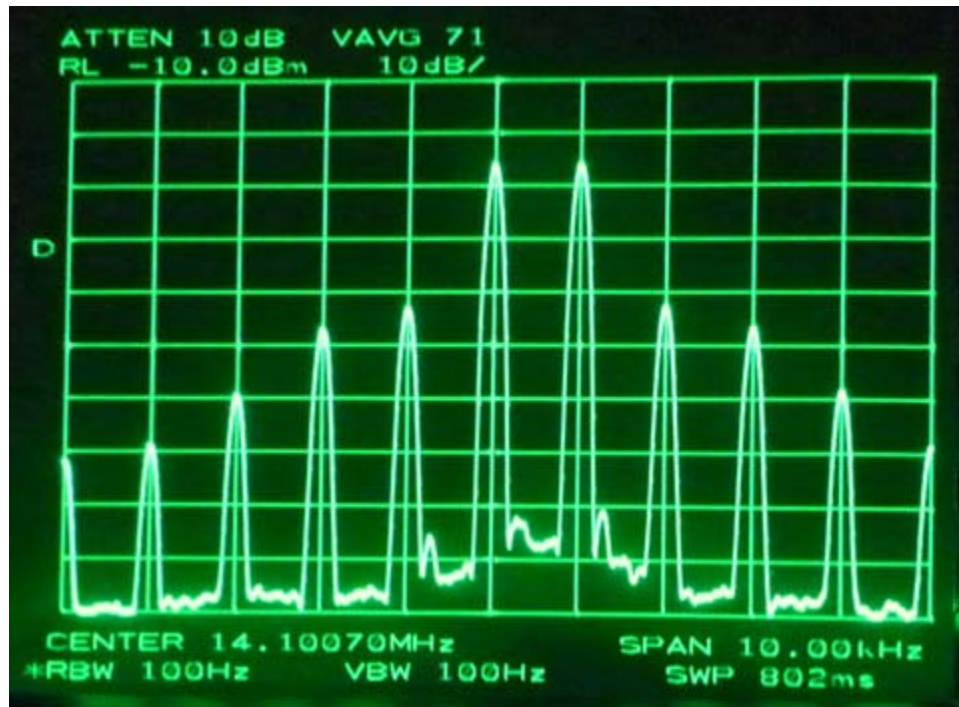

Figure 13: Spectral display of 2-tone IMD at 100W PEP.
**Test Conditions:** DC supply 13.8V, measured at DC power socket. 14100 kHz USB-D, DATA on, D-Mod = u, USB Level 100. Test tones: 700 and 1700 Hz, at equal amplitudes. On computer, adjust USB Codec device volume for -6 dBc test tone level (= 100W PEP). **Figure 13** shows the two test tones and the associated IMD products.